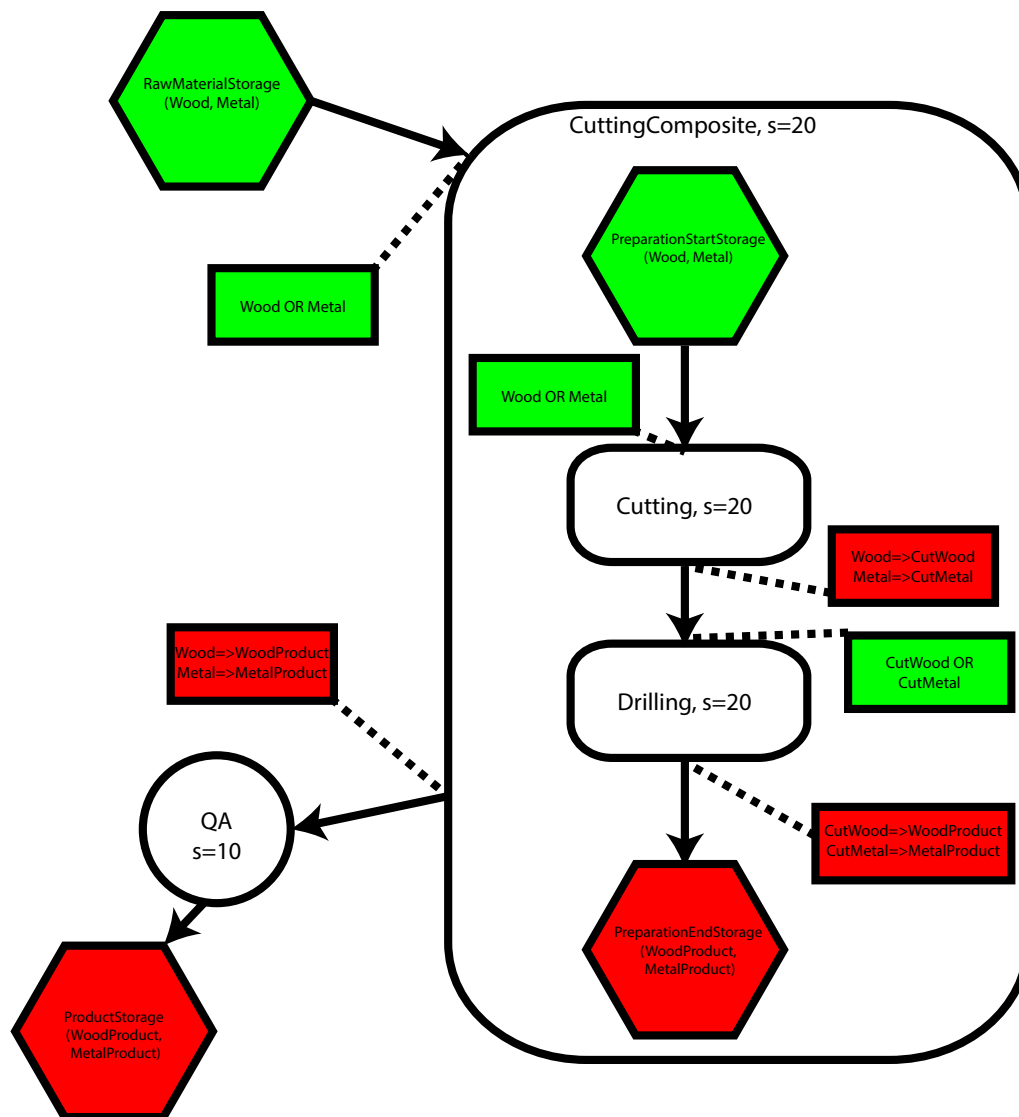

Figure 1: Example Illustration
Download the meta model solution for the previous assignment in PingPong. You will use this instead of your own meta model solution. Execute the following OCL expressions on the provided example model (example.xmi; an example illustration of the manufacturing system, with some omitted details, is depicted in Figure 1), first manually and then using the interactive OCL console:
6. Transitions shall only connect ManufacturingSystemElements within the same ManufacturingSystem. E.g. in the example in Figure 1, it would not be allowed to connect RawMaterialStorage directly to the Step Cutting, as Cutting is inside another ManufacturingSystem (CuttingComposite).
7. Outputs and inputs of connected Steps shall be compatible. That is, the input condition of a Step has to include at least one condition on a WorkPieceType that is produced by at least one Step connected to it via an incoming transition. E.g. in the example in Figure 1, the output of Step Cutting is compatible with Step Drilling, as at least one of the possible outputs of Cutting (CutWood and CutMetal) occur in the input of Drilling.